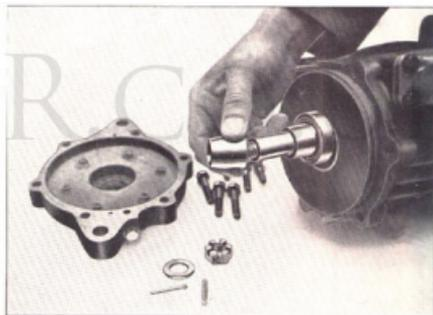

FIG. 10. Placing the seal guide in position, prior to assembly of the drive end cover.
12. Refit the drive end cover to the body; the special protective tapered seal guide should be fitted over the drive shaft to prevent damage to the edges of the seal by the shaft collar. The operation is illustrated in Fig. 10.